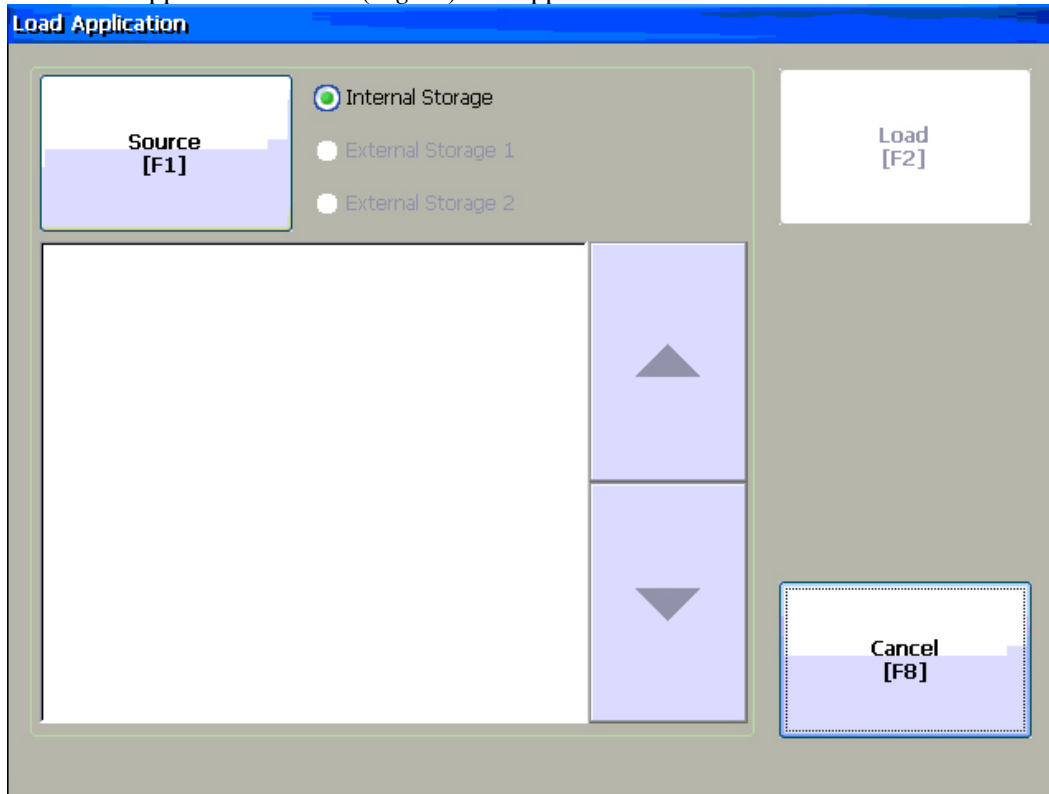

Fig 14
9. The Load Application Screen (*Fig 14*) will appear.